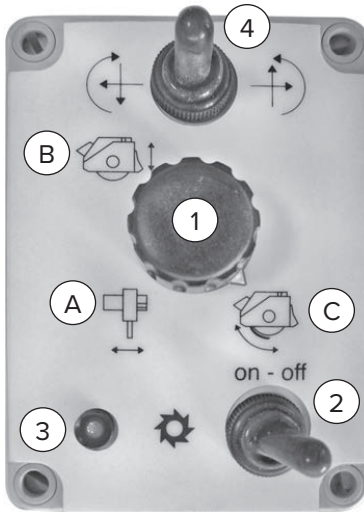

Figure 8
1. Stop the cutting wheel by setting the switch [Figure 8, Item 2] to the OFF position, and check that the red LED [Item 3] is OFF.